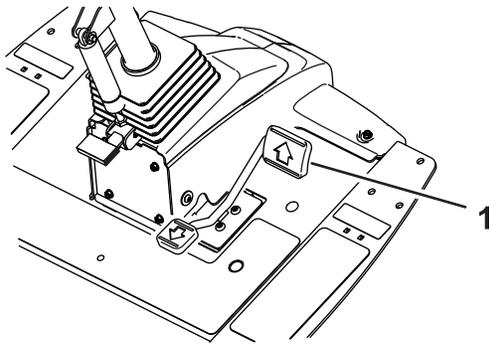
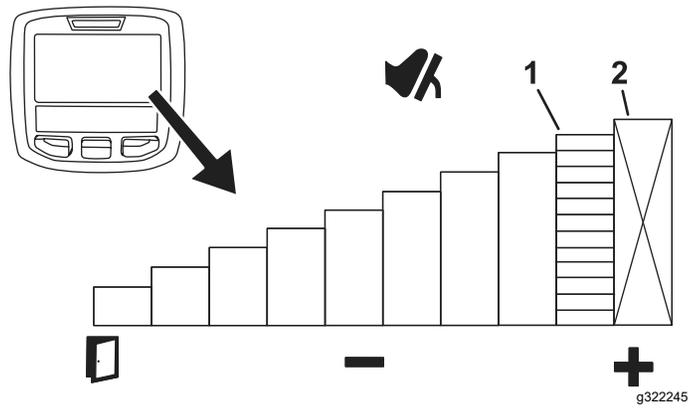

Figure 46
Figure 47
To temporarily set the maximum speed of the machine, press the traction pedal fully forward (Figure 46). You can set a separate speed for the mow range and transport range (Figure 47).
- To access this feature, select the InfoCenter middle button from the main screen (Figure 47).